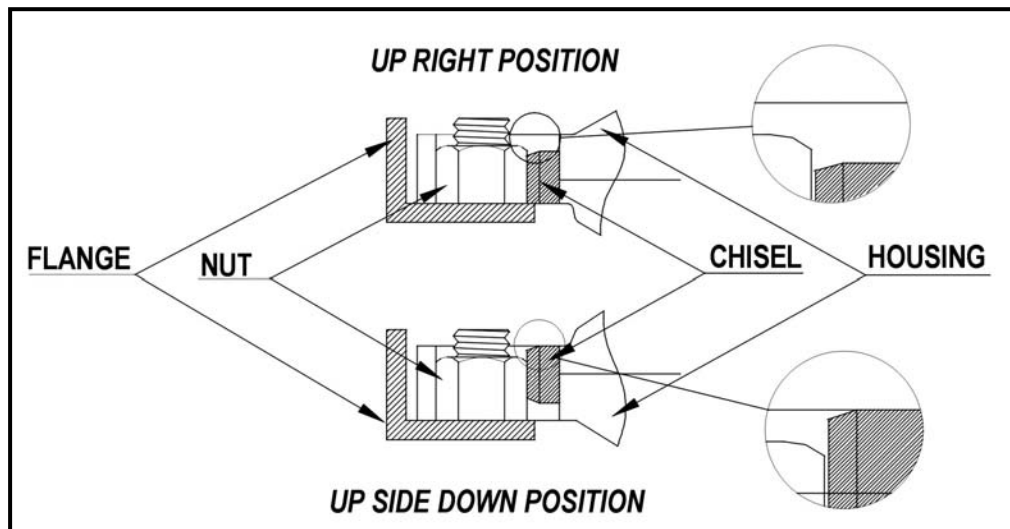

FIG.8
**Answer:** Lubricate the cutting chisel again. Reposition the nut splitter, over the nut, upside down. This will place the chisel approximately 1/4" to 1/2" above the surface of the Range. Make sure the cutting chisel is positioned in the same location where the previous cut was attempted. There will be 1/4" to 1/2" of the chisel visible above the nut. Apply hydraulic pressure until the nut is severed. See figure 8.